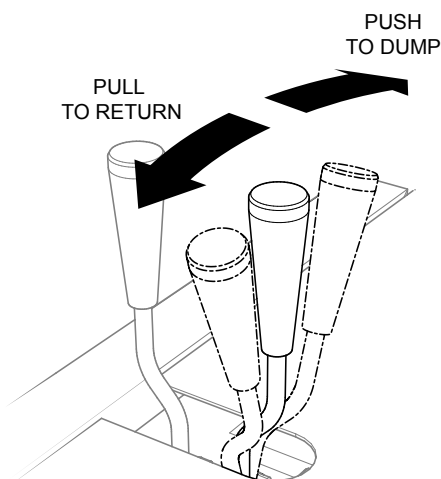

Figure 24. Hydraulic Dump Lever
1. Push hydraulic dump lever (Figure 24) outward to place drum in dump position (Figure 25).